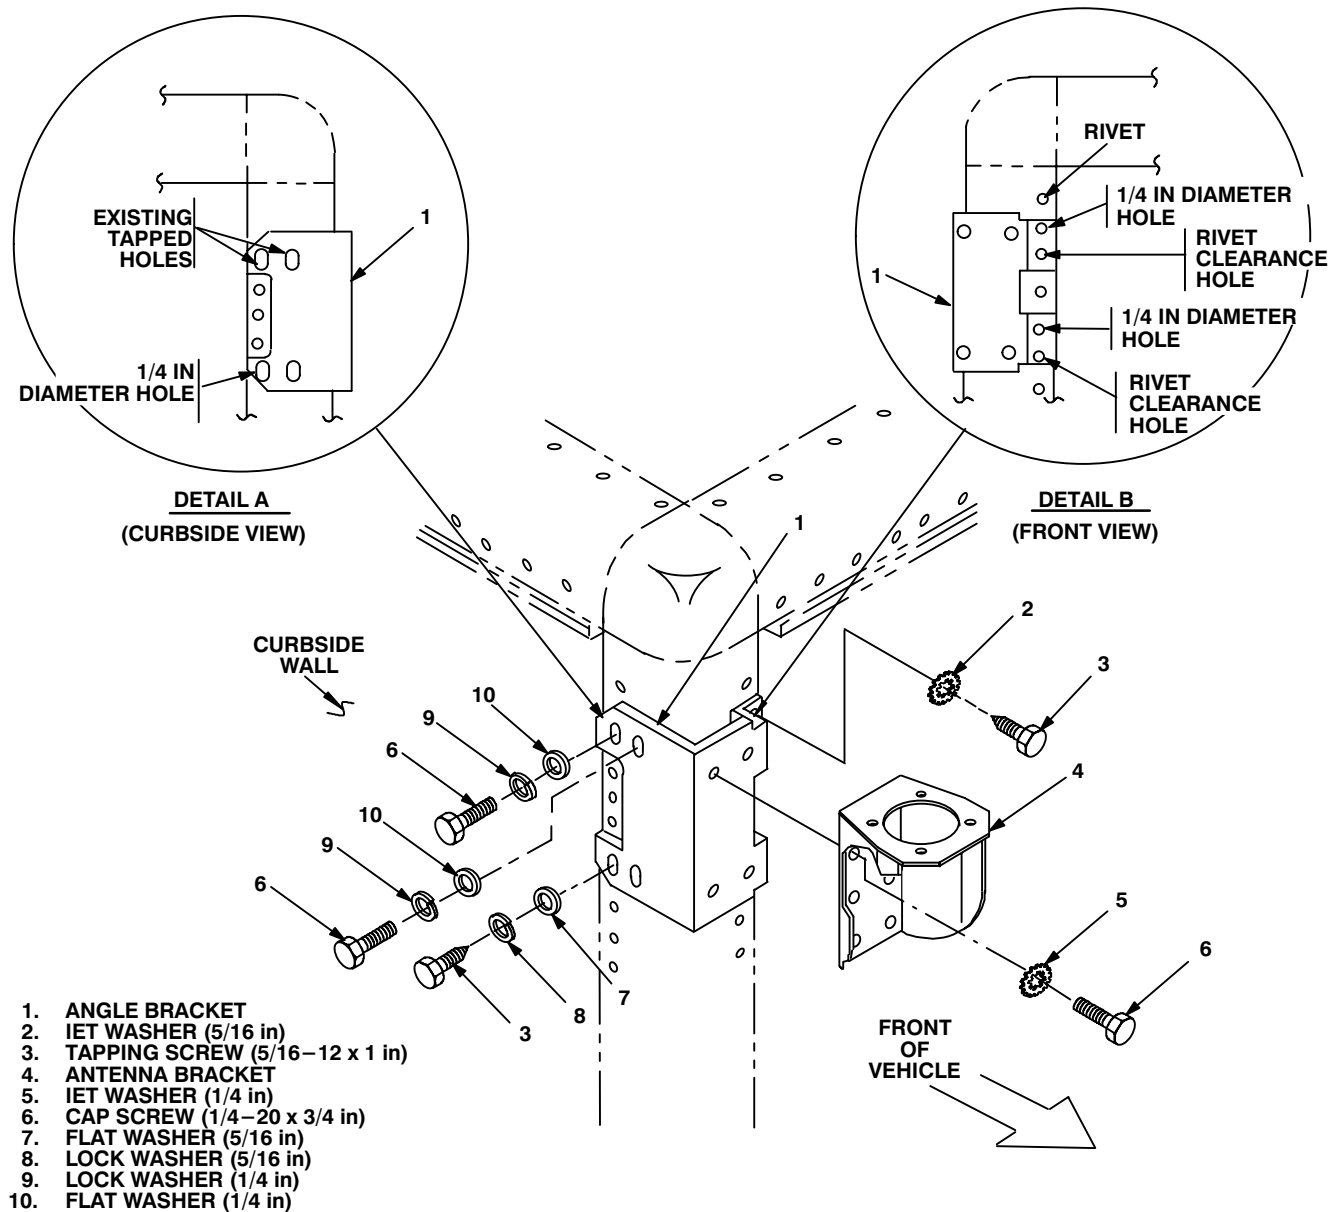

Figure 5-2 (1). Antenna Base Installation - M109 Series: Installing Brackets
- a. Two existing screws on upper curbside corner of vehicle. Remove from existing tapped holes. See figure 5-2 (1), detail A.
b. Angle bracket (1), antenna bracket (4) and four existing mounting holes in vehicle front wall.	Remove a 1" diameter area of paint around four existing mounting holes in vehicle front wall. Remove a 1" diameter area of paint around both sides of mounting holes in angle bracket (4) that mate with mounting holes in vehicle front wall. Clean the paint removed areas and apply a thin coat of conductive anti-seize compound.	Tools: Electric grinder or equivalent.
c. Angle bracket (1).	Position on upper curbside corner of vehicle; then align holes with two existing tapped holes on side and rivets on front. See Figure 5-2(1), Details A and B.